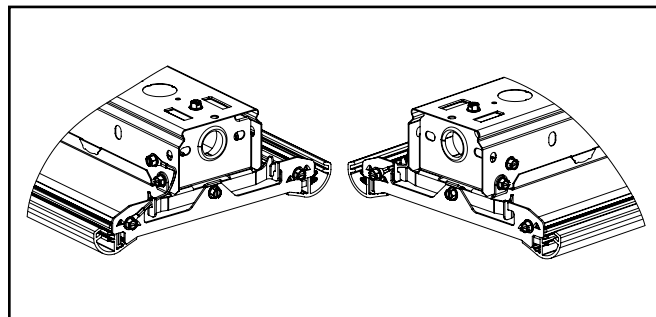

Figure 3.5
- F. Make sure the tabs of the waveguide assembly are securely inside of the grooves of the channel hinge bracket. (Figure 3.5)